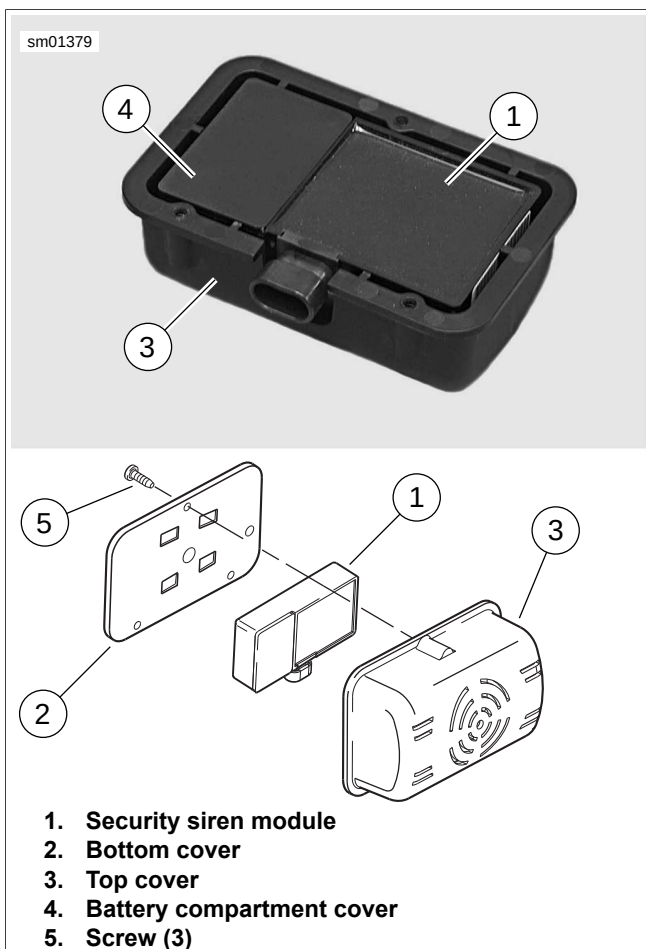

Figure 6-129. Security Siren Assembly
2. See Figure 6-129. Remove security siren (1) from top cover (3).
1. See Figure 6-129. Place security siren module (1) inside top cover (3) with siren connector [142A] positioned in cutout in cover and siren battery compartment cover (4) visible.